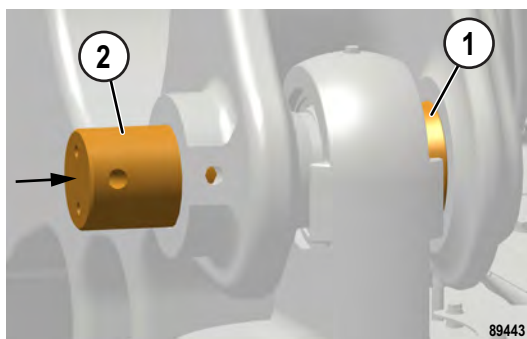

FIGURE 50-45. INNER BEARING SPACER INSTALLATION
9. Install another spacer (1, Figure 50-45) on the other side of the top suspension eye.
10. Push pin (2) through the spherical bearing and into the inner upper frame mounting ear.